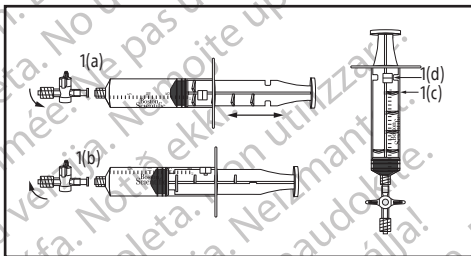

Figure 1.
1. Examine the stopcock (Figure 1(a)). The stopcock has two luer connections to attach to the needle and syringe. Air can be exchanged with the stopcock in the open position. The stopcock is open when it is aligned parallel to the syringe; it is closed when perpendicular to the syringe (as shown).
2. Examine the syringe (Figure 1). The syringe barrel has one stop pin (Figure 1 (d)) and the syringe plunger has four locking fins (Figure 1(c)). The syringe plunger can be maneuvered within the syringe barrel to lock and unlock the syringe. To lock the syringe, pull back on the plunger until it aligns with the desired suction volume (Figure 1(a)). Turn the plunger clockwise so that the locking pin engages with the locking fins on the plunger (Figure 1(b)). Turn the plunger counterclockwise to release.
11. Prepare the supplied syringe and stopcock as previously noted. Rotate the stopcock to the closed position, perpendicular to the syringe. Pull the syringe plunger to the desired volume and use the locking fins and stop pin on the syringe to secure the plunger in place. (Figures 1(c) and 1(d)).
Note: The locking fins and stop pin (Figures 1(c) and 1(d)) will have to be disengaged in order to pass air from the syringe.